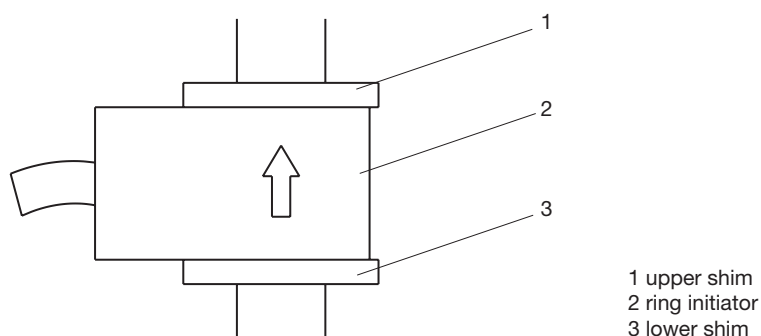

Fig. 12: Overview stroke sensor
- ▶ Turn the upper shim (1) of the stroke sensor (see Fig. 12) to the upper top.
- ▶ Follow with the ring initiators (2) and the lower shims (3).